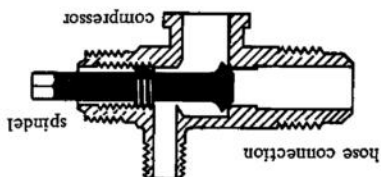

Fig. 8
5. Connect hoses of manifold gauge set (refer to Fig. 8). Connect hose from compound gauge to suction service valve (designation on cylinder head "Suction").